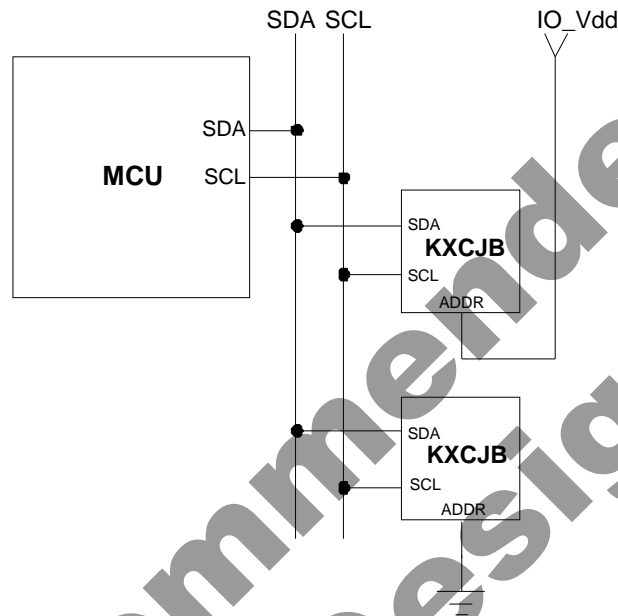

Figure 1. Multiple KXCJB I²C Connection
Transactions on the I²C bus begin after the Master transmits a start condition (S), which is defined as a high-to-low transition on the data line while the SCL line is held high. The bus is considered busy after this condition. The next byte of data transmitted after the start condition contains the Slave Address (SAD) in the seven MSBs (Most Significant Bits), and the LSB (Least Significant Bit) tells whether the Master will be receiving data '1' from the Slave or transmitting data '0' to the Slave. When a Slave Address is sent, each device on the bus compares the seven MSBs with its internally stored address. If they match, the device considers itself addressed by the Master. The KXCJB's Slave Address is comprised of a programmable part and a fixed part, which allows for connection of multiple KXCJB's to the same I²C bus. The Slave Address associated with the KXCJB is 000111X, where the programmable bit, X, is determined by the assignment of ADDR (pin 8) to GND or IO_Vdd. Figure 1 above shows how two KXCJB's would be implemented on an I²C bus.